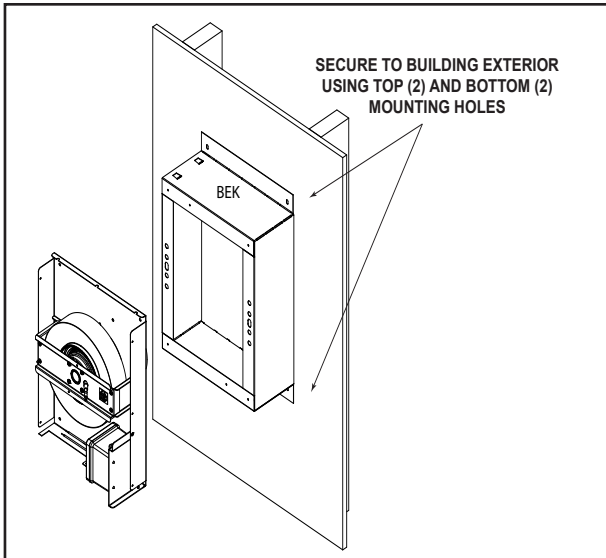
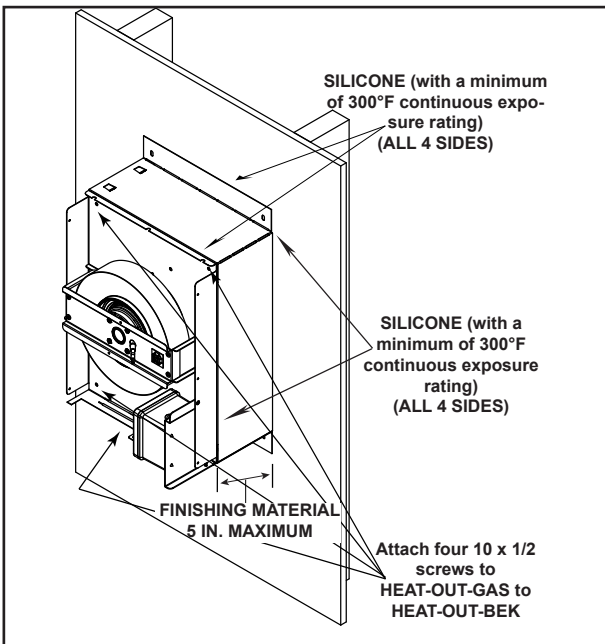

Figure 2.12 HEAT-OUT-GAS Attached to HEAT-OUT-BEK
Figure 2.13 Silicone Weather Sealing
13. Apply a bead of silicone (with a minimum of 300° F continuous exposure rating) around the entire metal flange of the HEAT-OUT-GAS. See Figure 2.14. Align with HEAT-OUT-BEK as shown in Figure 2.12. Ensure cap is level and square, then secure HEAT-OUT-GAS to HEAT-OUT-BEK as shown in Figure 2.13.
14. After the HEAT-OUT-GAS has been secured to the HEAT-OUT-BEK, silicone (with a minimum of 300° F continuous exposure rating) should be applied around outer edge of HEAT-OUT-BEK where it meets the building exterior. Silicone (with a minimum of 300° F continuous exposure rating) should also be applied where HEAT-OUT-GAS and HEAT-OUT-BEK meet, as shown in Figure 2.13. If installing with HEAT-OUT-BEK skip to step 17.